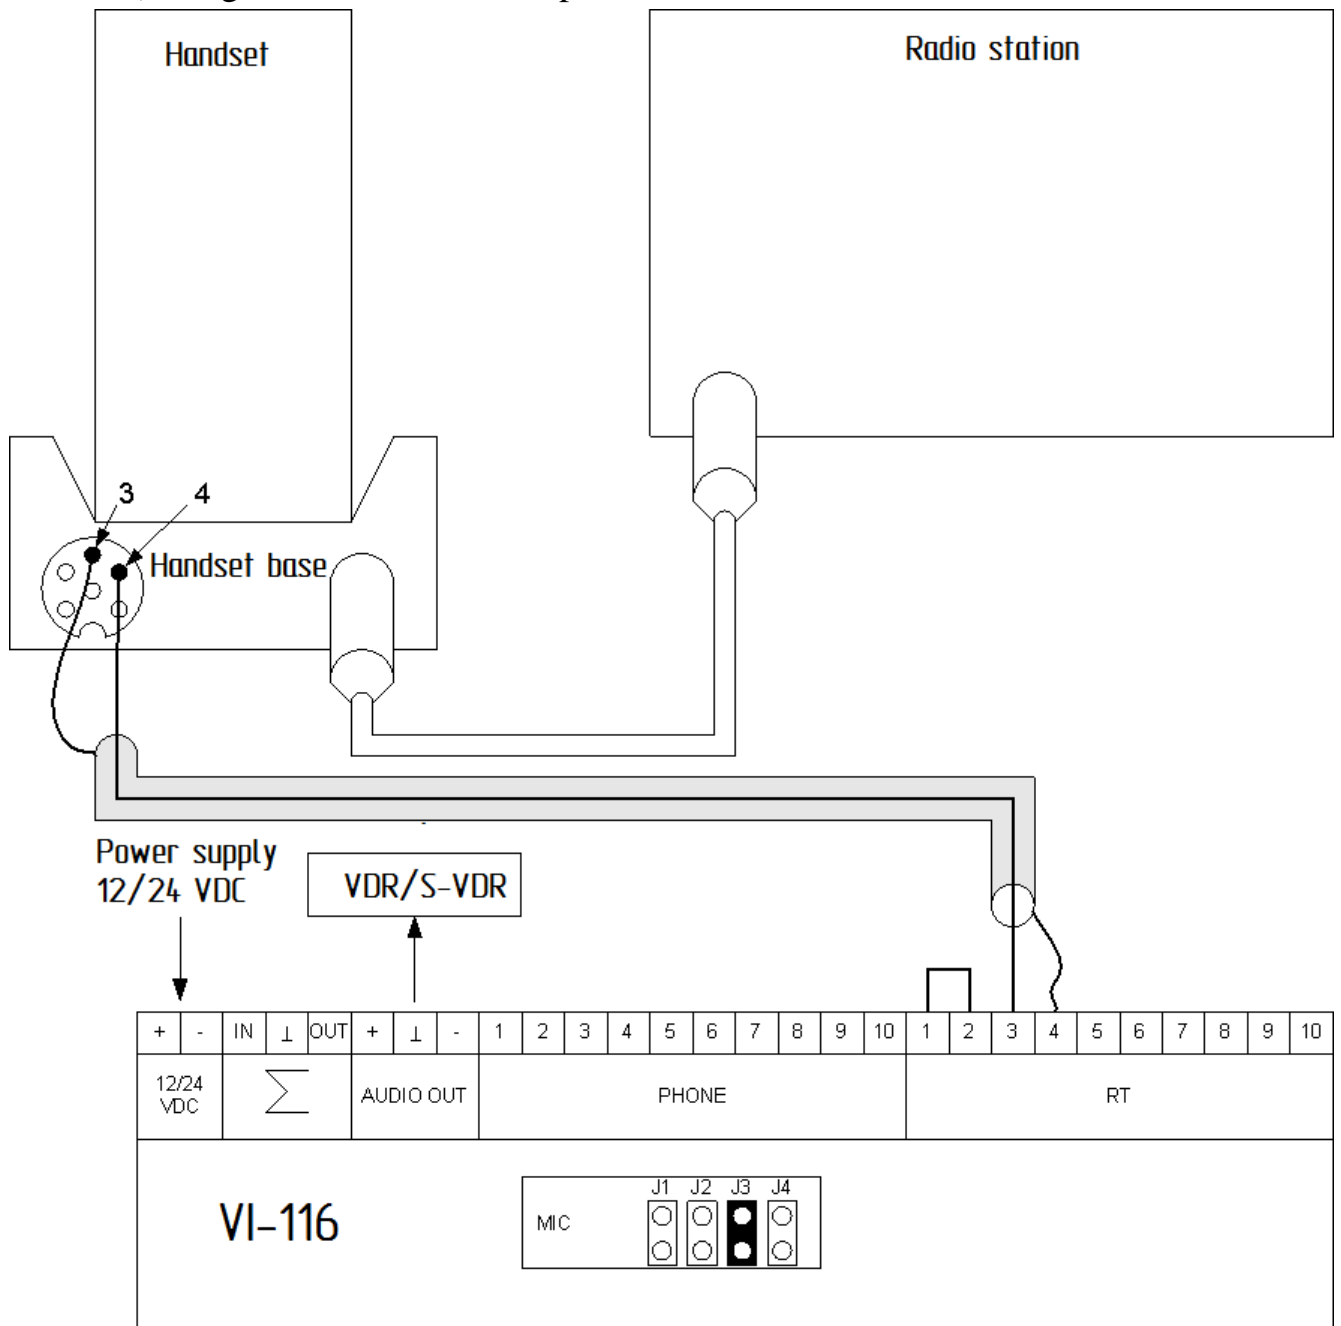

Figure 4 – Connection to SCANTY radio station
- a) connect the Product to the duplicate connector of the base with single core shielded wire (see Figure 4);